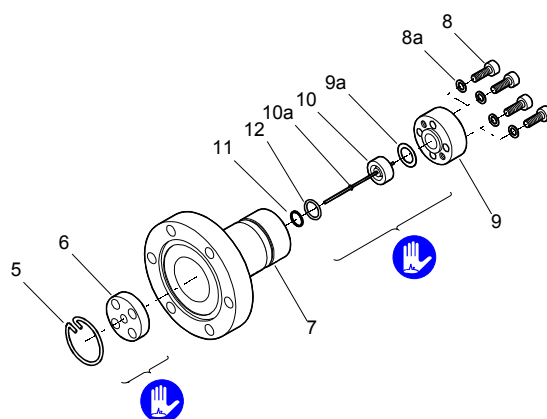

Figure 2b
- a) Insert the new metal seal (11) with the centering ring (12) centered into the measuring chamber. The sealing surfaces, seal and ceramic part must be clean (→ Figure 2b).
- b) Carefully insert the anode (10) incl. ignition aid (10a) into the measuring chamber.
- c) Carefully place the washer (9a) and the pressure piece (9) on the measuring chamber and tighten them **uniformly** with the four hexagon socket screws (8) incl. the lock washers (8a) until the stop position is reached.
- f) Slide the polarity insert (6) into the measuring chamber up to the mechanical stop.
- g) Place the circlip (5) snugly fitting on the polarity insert.